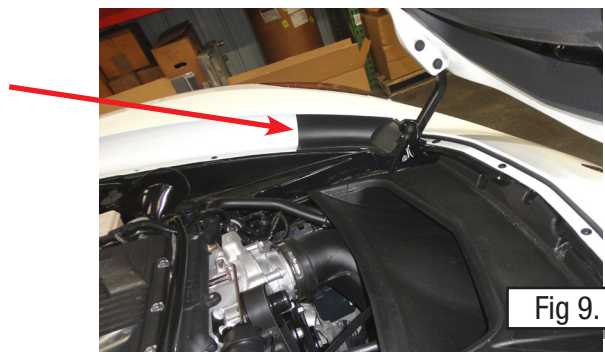

Fig 9.
11. Now move to the top side of the vehicle. The plastic covers on each side of the fender and nose intersection should be removed by pulling outward on the cover on the end closest to the windshield (Fig. 9)